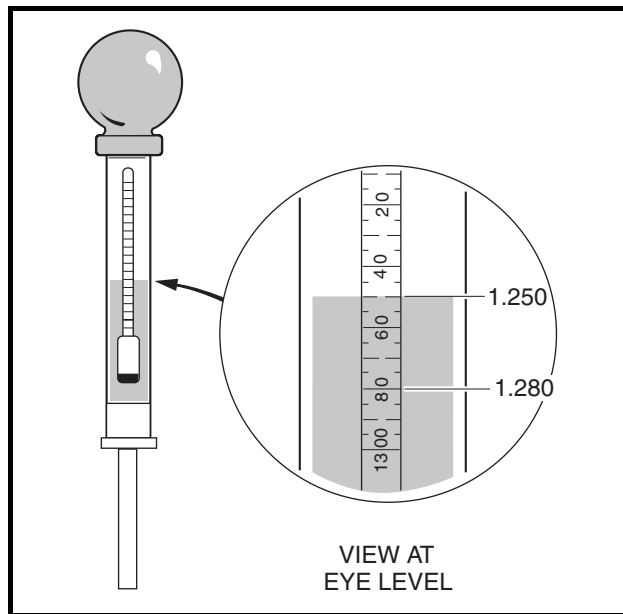

Figure 14-4 Hydrometer
5. Hold the hydrometer vertically, ensuring that the float is not touching the sides of the barrel. Hold the hydrometer at eye level and read the scale at the level of electrolyte (**Figure 14-4, Page 14-8**).